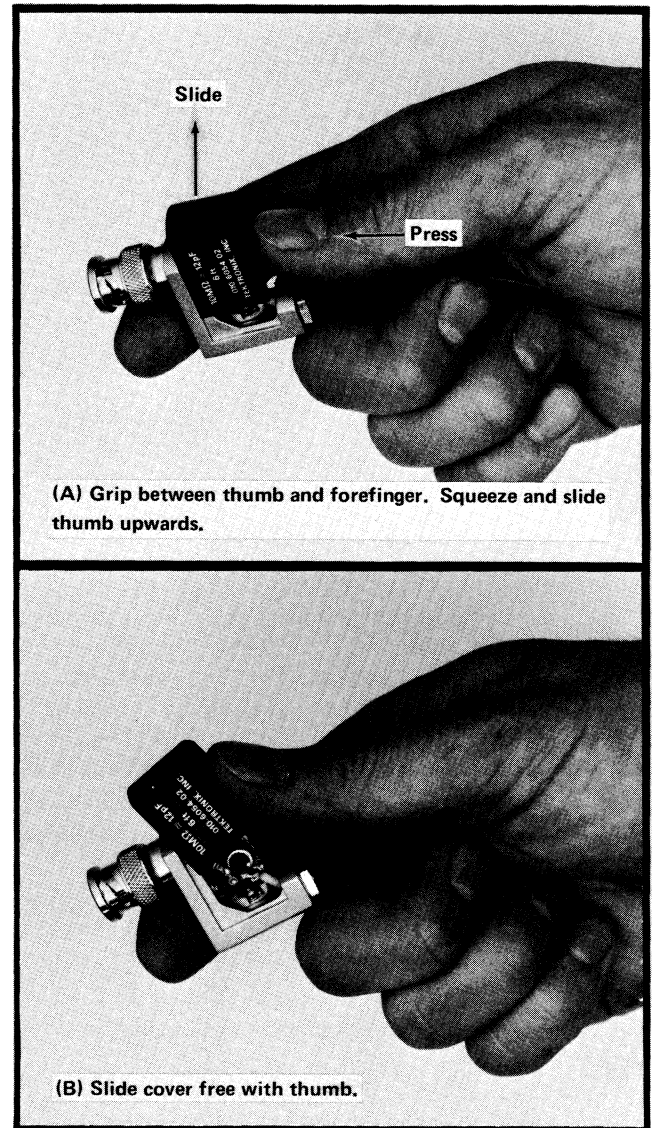

Fig. 3-1. Removal of cover on compensation box.
The compensation box cover is a snap-fit type. See Fig. 3-1 for directions on removal.
1. Remove the snap-fit cover on the compensation box. See Fig. 3-1 for instructions.
1. Remove the snap-fit cover on the compensation box. (See Fig. 3-1.)